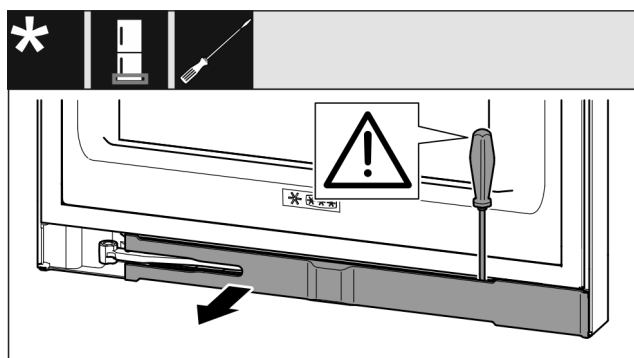

Fig. 15
- ▶ Use a slotted screwdriver to unlatch the trim and swing it to the side. (see Fig. 15)